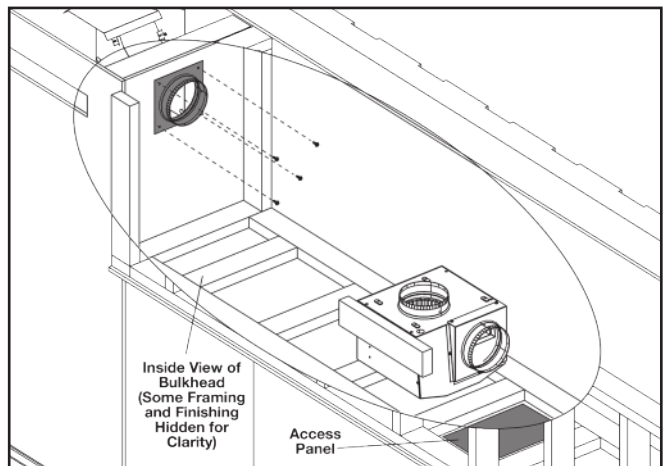

Fig. 2
2. Fasten the wall flashing onto the hot air exhaust assembly using 4 screws (supplied) (**Fig. 2**).
2. Secure the 6" (152mm) collar plate assembly over the hole with the appropriate fasteners (not supplied) (Fig. 2).
16. Install the on/off switch housing into the blower kit housing by inserting the tabs into the slots (**Fig. 2**). Tighten the nut onto the stud.